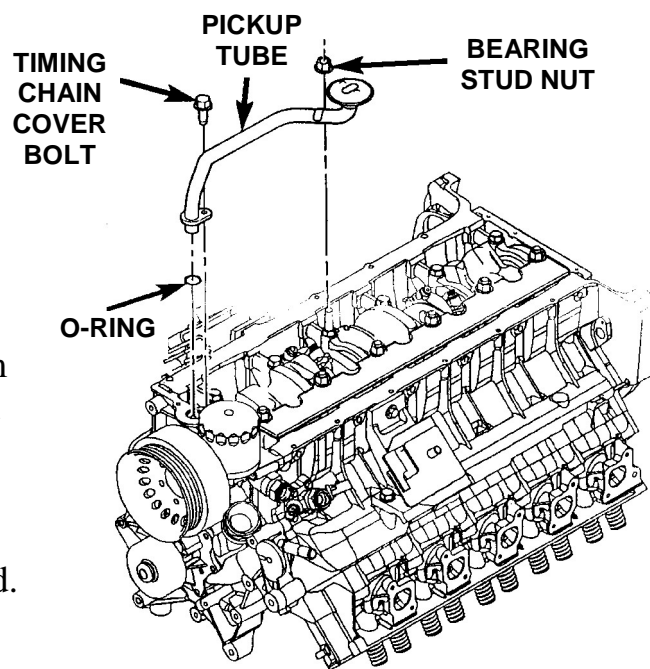

Figure 6
35. Disconnect oil pick up tube and lower it into the oil pan (Figure 6).
55. Inspect the oil pickup tube O-ring (Figure 6). Install a new O-ring (P/N 06032920) if it is damaged.
56. Install the oil pickup tube into the timing chain cover, seating the O-ring (Figure 6).
57. Install oil pickup tube flange onto the timing chain cover (Figure 6). Tighten the bolt to 100 in-lbs (11 N·m).
58. Install the oil pickup tube main bearing stud nuts to secure the oil pickup tube straps (Figure 6). Tighten the nuts to 200 in-lbs (22 N·m).